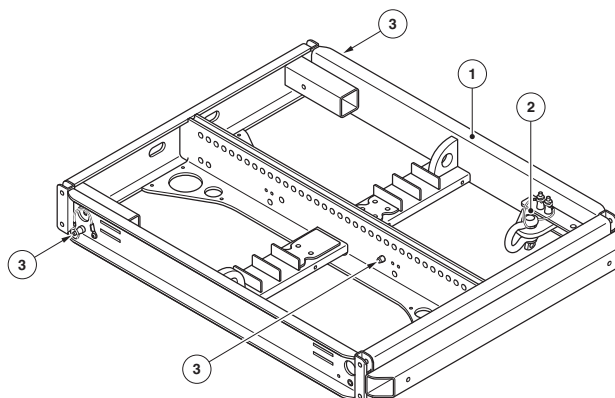

Figure 2.1 - Overview
Attach the VERA36 loudspeaker to the VERA RF900 rigging frame with all three locking pins (see pos. 3, "Figure 2.1 - Overview" on page 3).